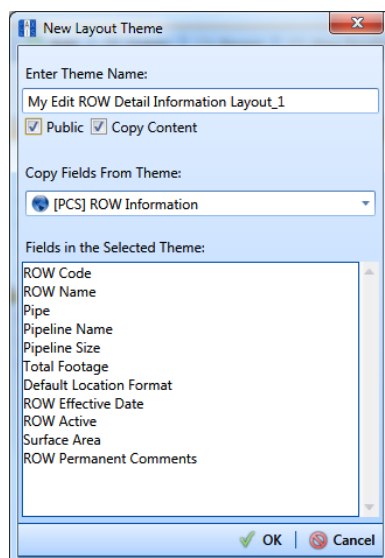

Figure 3-21. New Layout Theme
- 4 Click the **Customize** tab  then  **Add** to open the *New Layout Theme* dialog box. The following figure shows an example when adding a layout for the *Information* grid (Figure 3-21).